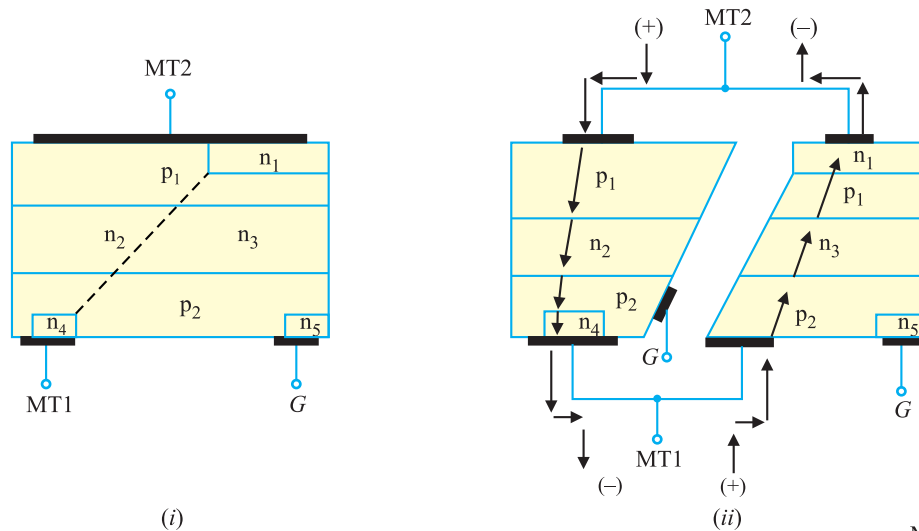
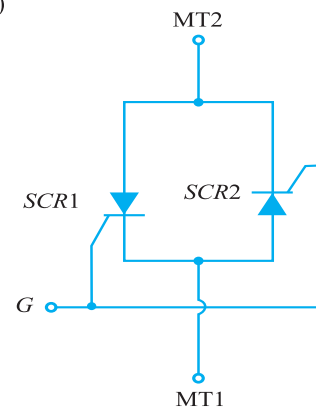

Fig. 21.3
Fig. 21.4
We shall now see that a triac is equivalent to two separate *SCRs* connected in inverse parallel (*i.e.* anode of each connected to the cathode of the other) with gates commoned. Fig. 21.3 (i) shows the basic structure of a triac. If we split the basic structure of a triac into two halves as shown in Fig. 21.3 (ii), it is easy to see that we have two *SCRs* connected in inverse parallel. The left half in Fig. 21.3 (ii) consists of a *pnpn* device ( $p_1n_2p_2n_4$ ) having three *pn* junctions and constitutes *SCR1*. Similarly, the
right half in Fig. 21.3 (ii) consists of  $pnpn$  device ( $p_2n_3p_1n_1$ ) having three  $pn$  junctions and constitutes  $SCR_2$ . The  $SCR$  equivalent circuit of the triac is shown in Fig. 21.4.
Suppose the main terminal  $MT_2$  is positive and main terminal  $MT_1$  is negative. If the triac is now fired into conduction by proper gate current, the triac will conduct current following the path (left half) shown in Fig. 21.3 (ii). In relation to Fig. 21.4, the  $SCR_1$  is  $ON$  and the  $SCR_2$  is  $OFF$ . Now suppose that  $MT_2$  is negative and  $MT_1$  is positive. With proper gate current, the triac will be fired into conduction. The current through the devices follows the path (right half) as shown in Fig. 21.3 (ii). In relation to Fig. 21.4, the  $SCR_2$  is  $ON$  and the  $SCR_1$  is  $OFF$ . Note that the triac will conduct current in the appropriate direction as long as the current through the device is greater than its holding current.
**Solution.** We have seen that transistor equivalent circuit of an *SCR* is composed of *pnp* transistor and *npn* transistor with collector of each transistor coupled to the base of the other. Since a triac is equivalent to two *SCRs* connected in inverse parallel (Refer back to Fig. 21.4), the transistor equivalent circuit of triac will be composed of four transistors arranged as shown in Fig. 21.6 (i). The transistors  $Q_1$  and  $Q_2$  constitute the equivalent circuit of *SCR1* while the transistors  $Q_3$  and  $Q_4$  constitute the equivalent circuit of *SCR2*. We can explain the action of triac from its transistor equivalent circuit as under :